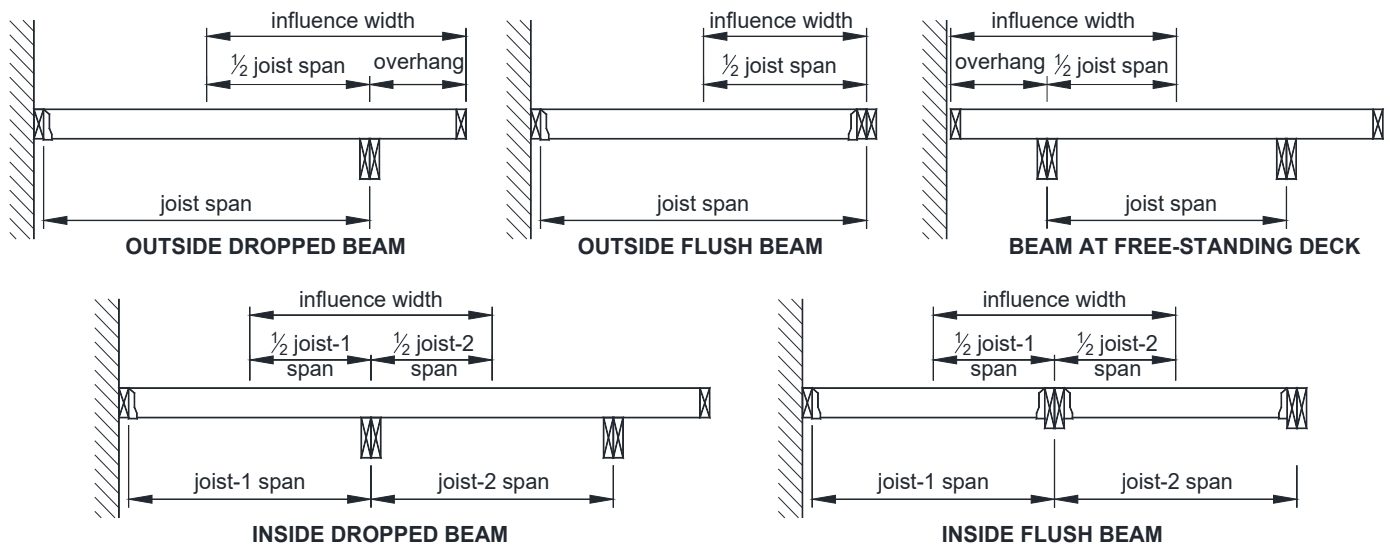

FIGURE 13: BEAM INFLUENCE WIDTH
- Beam size is based on its influence width and longest span length per TABLE 3. Beam influence width, as shown in FIGURE 13, is based on supported joists' span lengths and overhang dimensions.
- Beam plies are permitted to have splices. However, splices for each ply shall be located at inside posts connections only as shown in FIGURE 13.